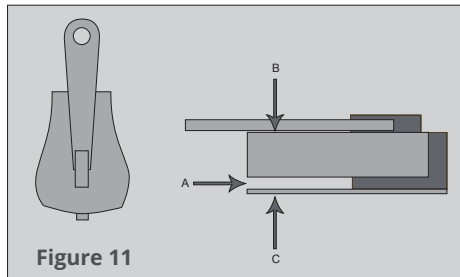

Figure 11
**See Figure 11.**
By simply 'crimping' the slider together at points B & C with a pair of pliers, this solves the problem most of the time. Crimping in other planes is worth a try if B & C does not work. This is to be done when the zip slider is still attached to the zip in the open position. **See Figure 11.**